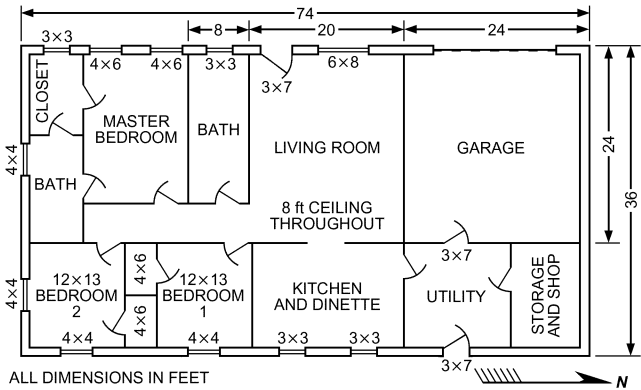

Fig. 1 Example House
p. 17.12–13, Fig. 1. The corrected figure is shown on p. A.3.
p. 20.1, 1st col. Immediately after the bulleted list, change the paragraph as follows: “As shown in Figure 1, local temperature concentration has a similar profile, although its rate usually differs. Carbon dioxide (CO₂) follows a similar pattern.”